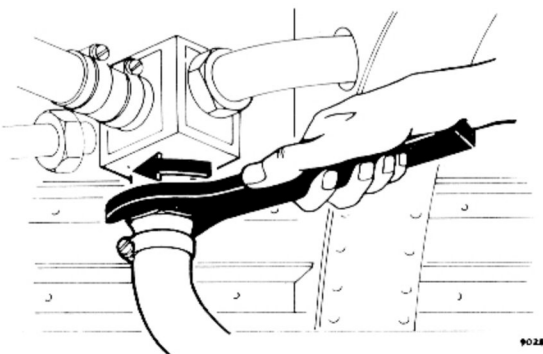

Fig.3. Fuselage tanks draining
(1) Connect electrical servicing trolley Ref.No.4F/1913 to the ground supply socket.
(2) Remove the tank filler cap (or caps).
(3) Remove the locking wire from the port and starboard junction box drain valves and connect hoses to the drain valves outlets (fig.3). Lead the hoses to containers.
(4) Switch on the associated fuel-cock switch (situated on the pilot's take-off panel).
(5) Slacken the drain valves until fuel flows into the containers.
(6) When draining is complete, switch off the associated fuel cock, tighten and wire-lock the drain valves and remove the drain hoses.
(7) Refit the tank filler cap (or caps).